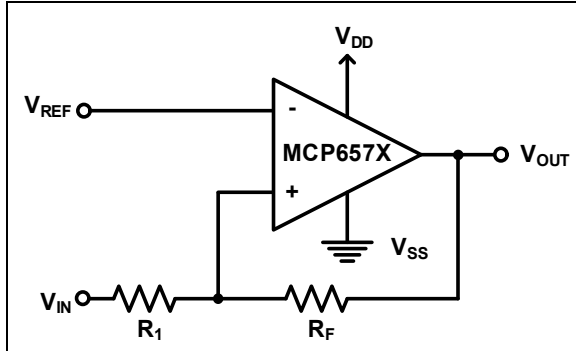
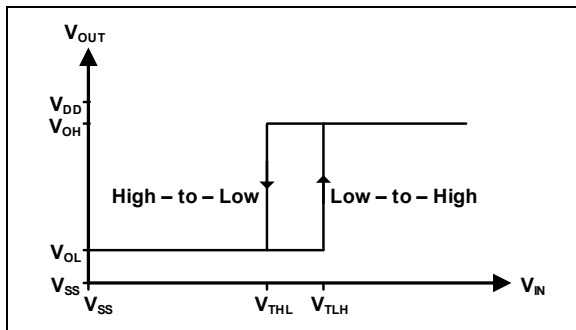

FIGURE 4-7: Noninverting Circuit with Hysteresis.
FIGURE 4-8: Hysteresis Diagram for Noninverting circuit.
Figure 4-7 shows a noninverting circuit for single supply applications using just two external resistors. The resulting hysteresis diagram is shown in Figure 4-8. The trip points (V_{TLH} and V_{THL}) can be determined by Equation 4-1.
2. Noninverting Configuration (Figure 4-7)